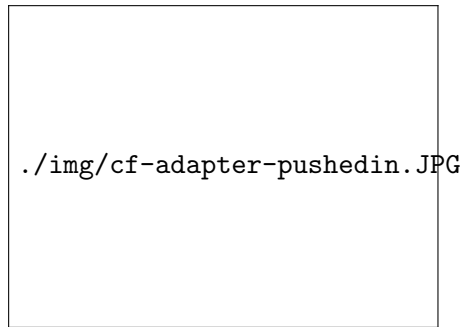

Figure 5.4: Stem pushed in.
6. Support the weight of both ends of the TL on stable objects and attach the KF adapter to the leak checker (we use a chair and lab bench in Figure 5.4). Do not allow the TL to torque about the adapter or the TL and adapter may both be damaged.